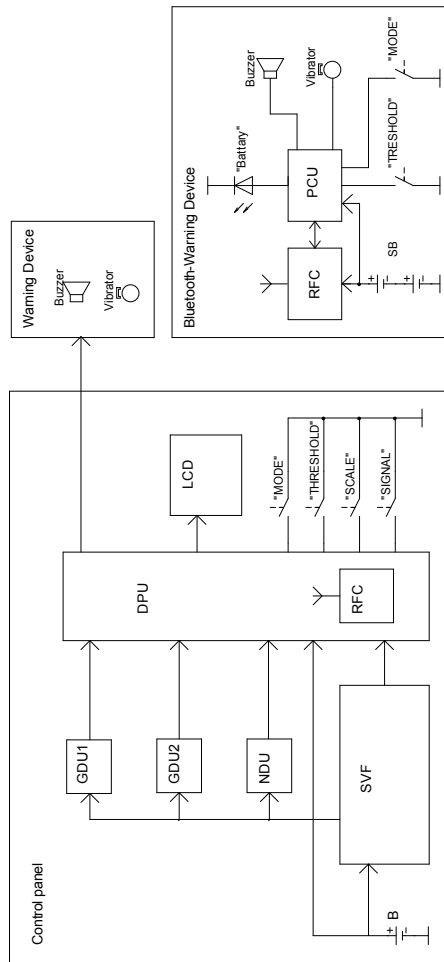

Figure 5 – Structure chart of the DKS-02PN "CADMIUM" search alarm dosimeter
1.4.3.1 The structure chart of the dosimeter is illustrated in Figure 5. It consists of the control panel and the split warning device. The split warning device is connected to the split on the side wall of the control panel of the dosimeter.